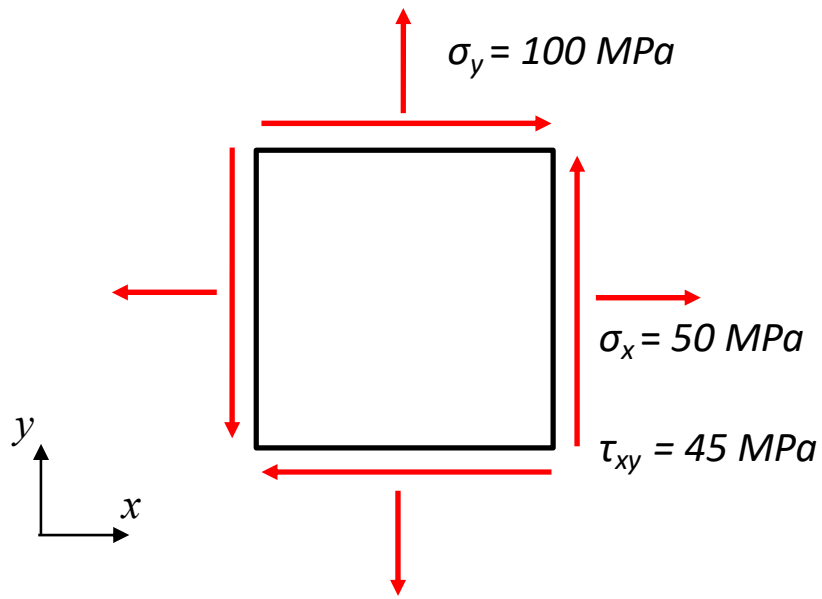

Fig. Q20
20. What is the value of the maximum in-plane principal stress for the 2D plane-stress element shown in Fig. Q20?